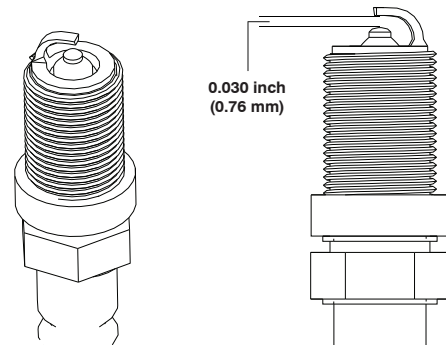

Figure 30
11. Set the gap on the plug to 0.030 inch (0.76 mm) (Figure 30).